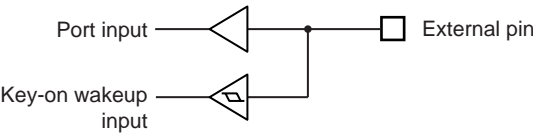

Figure 18-2 Key-on Wakeup Input and Port Input
- Note 3: The input circuit of Key-on Wakeup input and Port input is separated. Also each input voltage threshold value is different. Therefore, a value comes from port input before STOP mode start may be different from a value which is detected by Key-on Wakeup input (Figure 18-2).